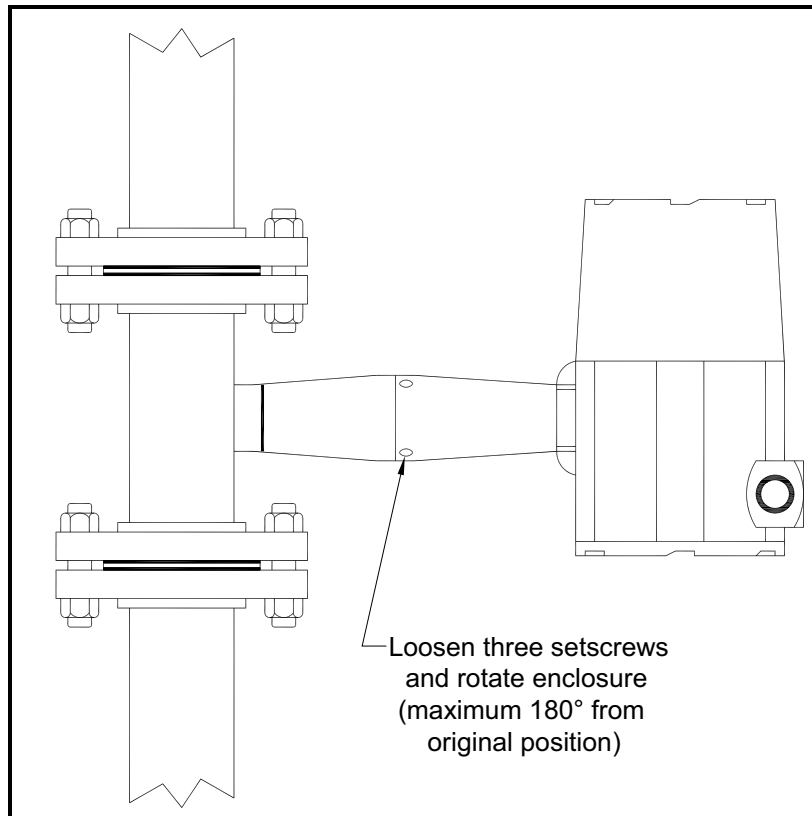

Figure 18: Enclosure Viewing Adjustment
To adjust the enclosure position, refer to *Figure 18* below and complete the following steps:
2. Loosen the three set screws shown in *Figure 18* above, and rotate the display to the desired position. The maximum allowable rotation is 180°.